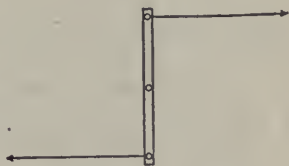

FIG. 68.—A couple.
86. The Couple.—If two equal parallel forces act upon a body along different lines in opposite directions, as in Fig. 68, they have no single resultant or there is no one force that will have the same effect as the two components acting together. A combination of forces of this kind is called a *couple*. Its tendency is to produce change of rotation in a body. An example is the action upon a compass needle which is rotated by a force which urges one end toward the north and by an equal force which urges the other end toward the south.